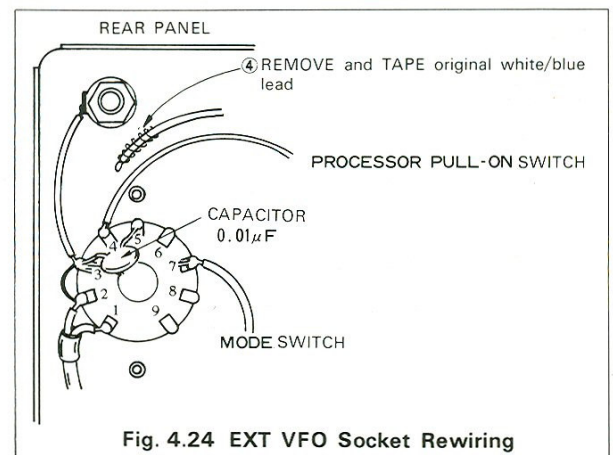

Fig. 4.24 EXT VFO Socket Rewiring
6. Remove the white/blue lead from pin "4" the EXT-VFO socket and tape insulate its end. Solder the supplied 0.01 μ F capacitor to the EXT-VFO socket, pins "3" and "5". Solder a jumper between pins "2" and "3". Solder the new leads from the PROCESSOR switch to EXT-VFO pin "4", and from the MODE switch to pin "7". (Fig. 4-24).